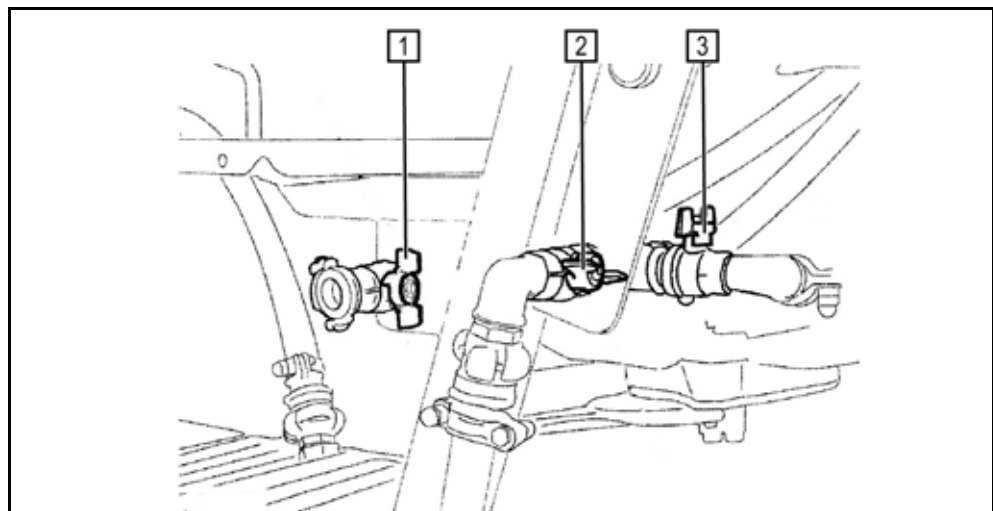

Fig. 185
It supplies the water necessary for machine cleaning, filling of the water box and preparation of a lubrication mixture to the ball valves on the right rear of the machine (**Fig. 185**).
- Switch the ball valves (**Fig. 185**) into the desired position.